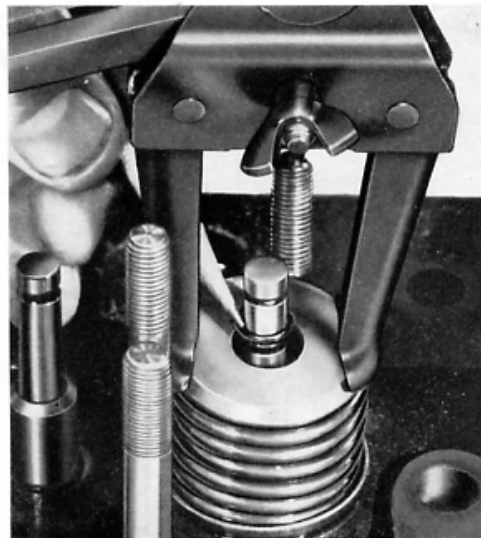

Fig. G.18. Locating a rubber 'O' Ring.
5. Fit 'O' ring over valve stem and slide down until it locates in annular groove. (Fig. G.18).